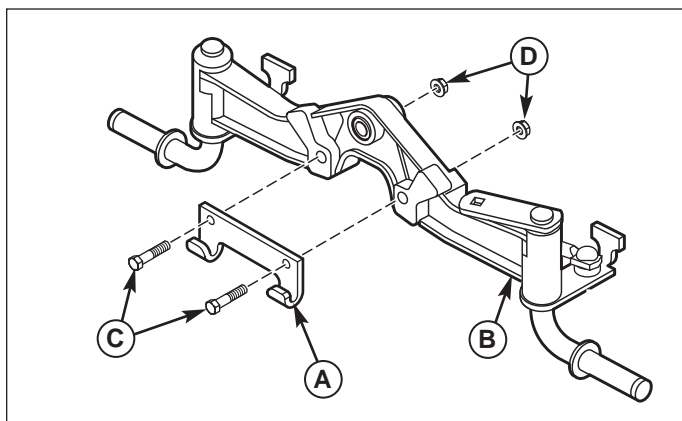

Figure 4 J-Hook Removal
- Remove J-hook (A, Figure 4) from original axle (B). Save J-hook (A), 7/16-14 x 2 capscrews (C), and 7/16-14 lock nuts (D) for installation on new axle.